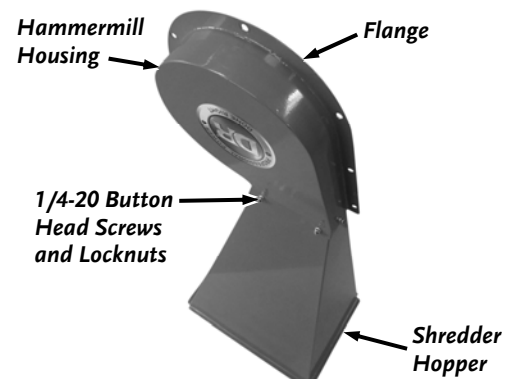

Figure 7
2. Position the larger end of the Shredder Hopper on a flat surface and set the Hammermill Housing over the Shredder Hopper (**Figure 7**). Secure with four 1/4-20 Button Head Screws on the inside and 1/4-20 Locknuts on the outside using a 5/32" Allen Wrench for the Screws and 7/16" Wrench for the Locknuts.